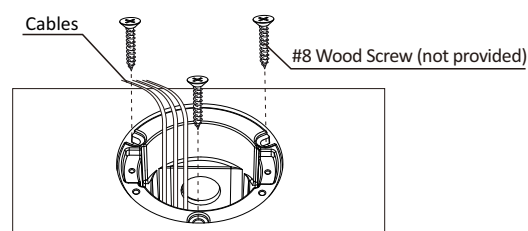

Fig. 5
4. Using standard electrical procedures, install a conduit fitting in the side or bottom of the 812-DA box. Run wires through the fitting and into the box and secure it. Drop the box into the hole. The bottom of the box lip should rest against the lip created in the floor. Using #8 wood screws (not provided), secure the box to the wood (Fig. 5).